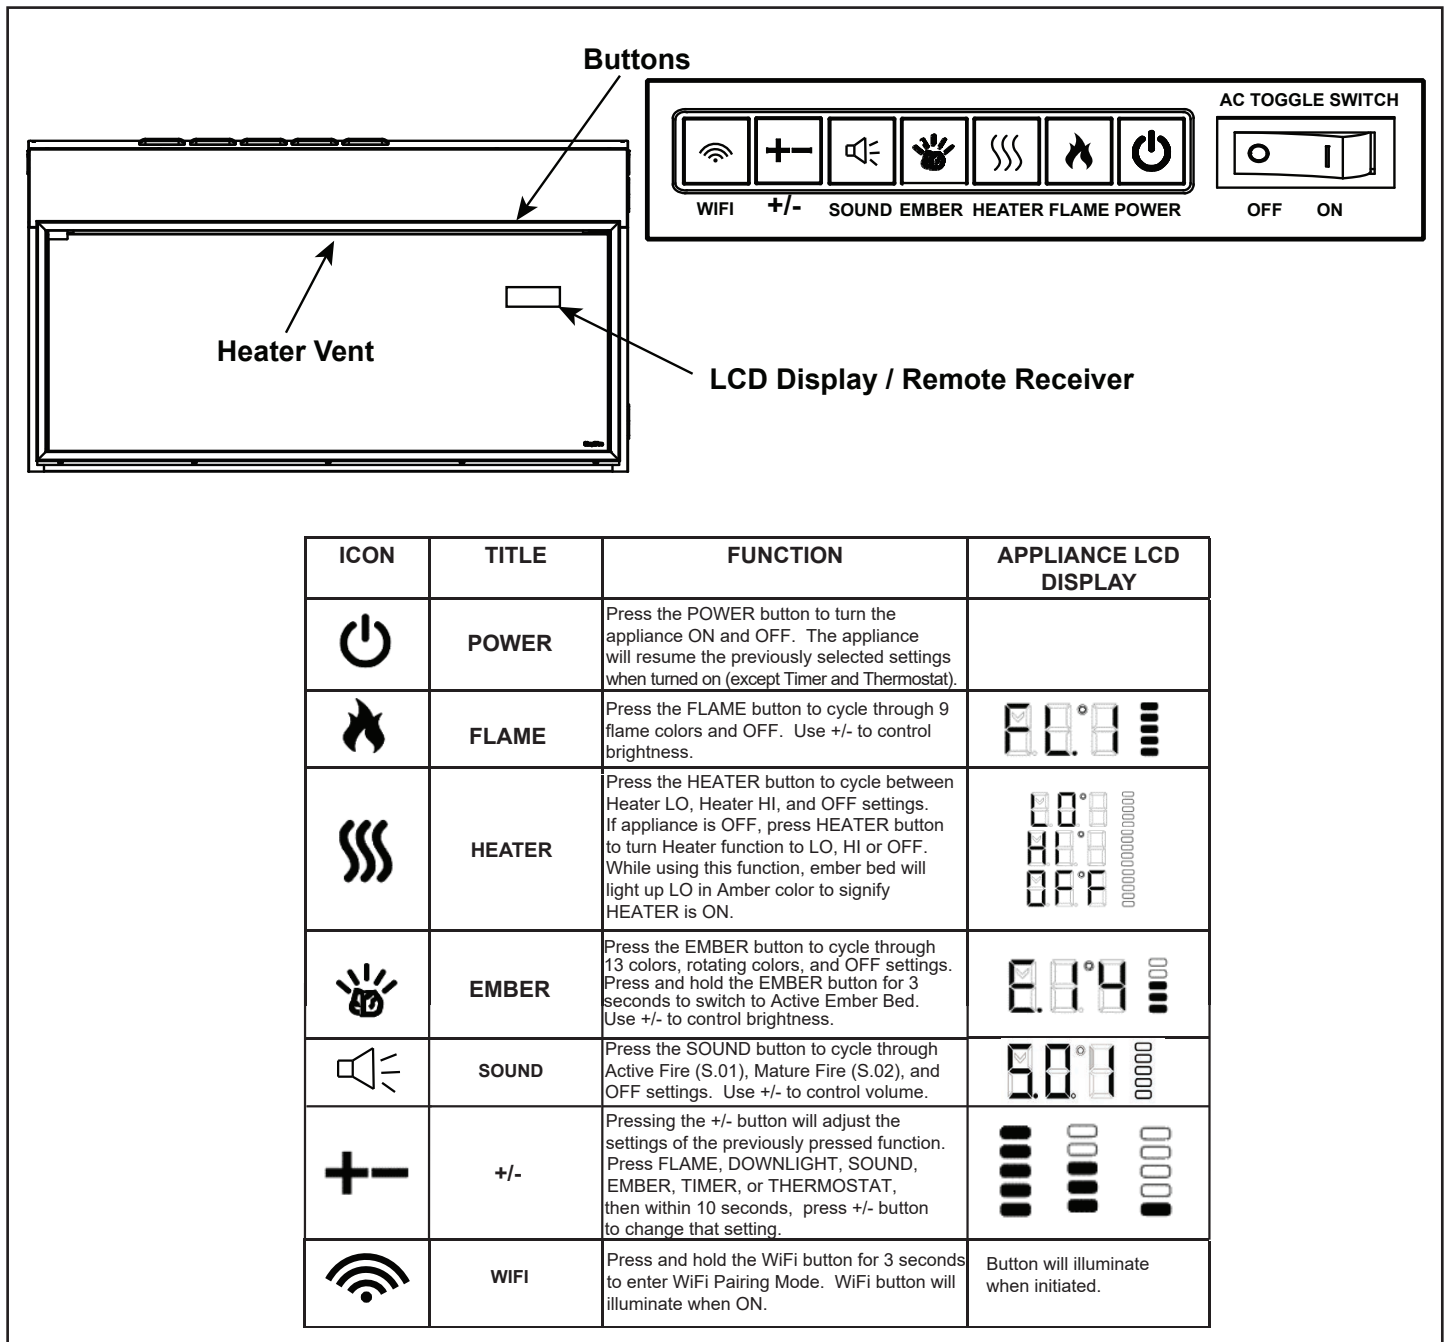

Figure 5.1 Manual Operating Switches and Indicator Lights
Before operating the appliance, ensure that the circuit breaker is turned on, that the heater input voltage/disable switch is toggled to the correct setting, and that the AC power cutoff switch on the appliance is in the “ON” position. The appliance will beep when AC power is first applied. See Figure 5.1.
- Remote uses radio frequency so does not have a specific field-of-view requirement. See Figure 5.1.